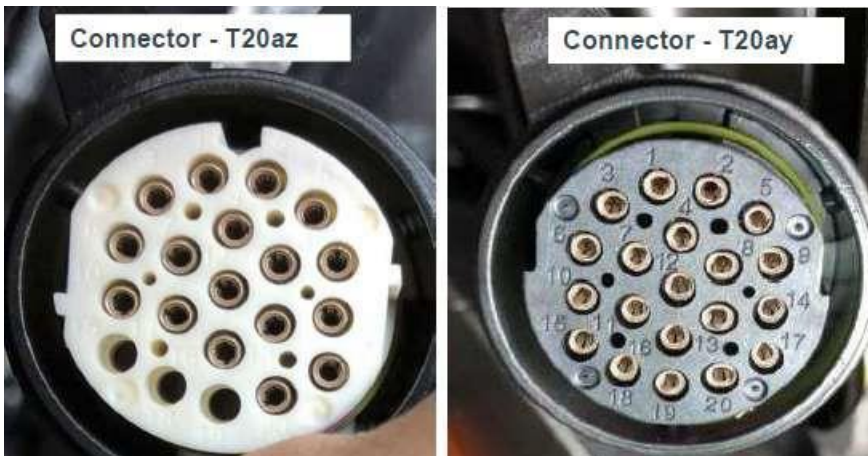

Figure 4
5) Disconnect the connections (Figure 4) from the Mechatronic unit for dual clutch gearbox -J743-
- Referring to the attached PDF document - Carry out resistance checks as detailed for the connectors shown in Figures 4 and 5